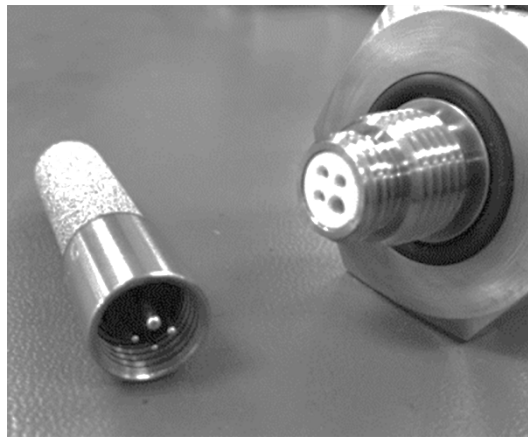

Figure J-2: Transducer tip
6. Type in the 6-digit serial number of the tip, followed by . The transducer tip serial number is etched on the removable tip barrel (fig. J-2).